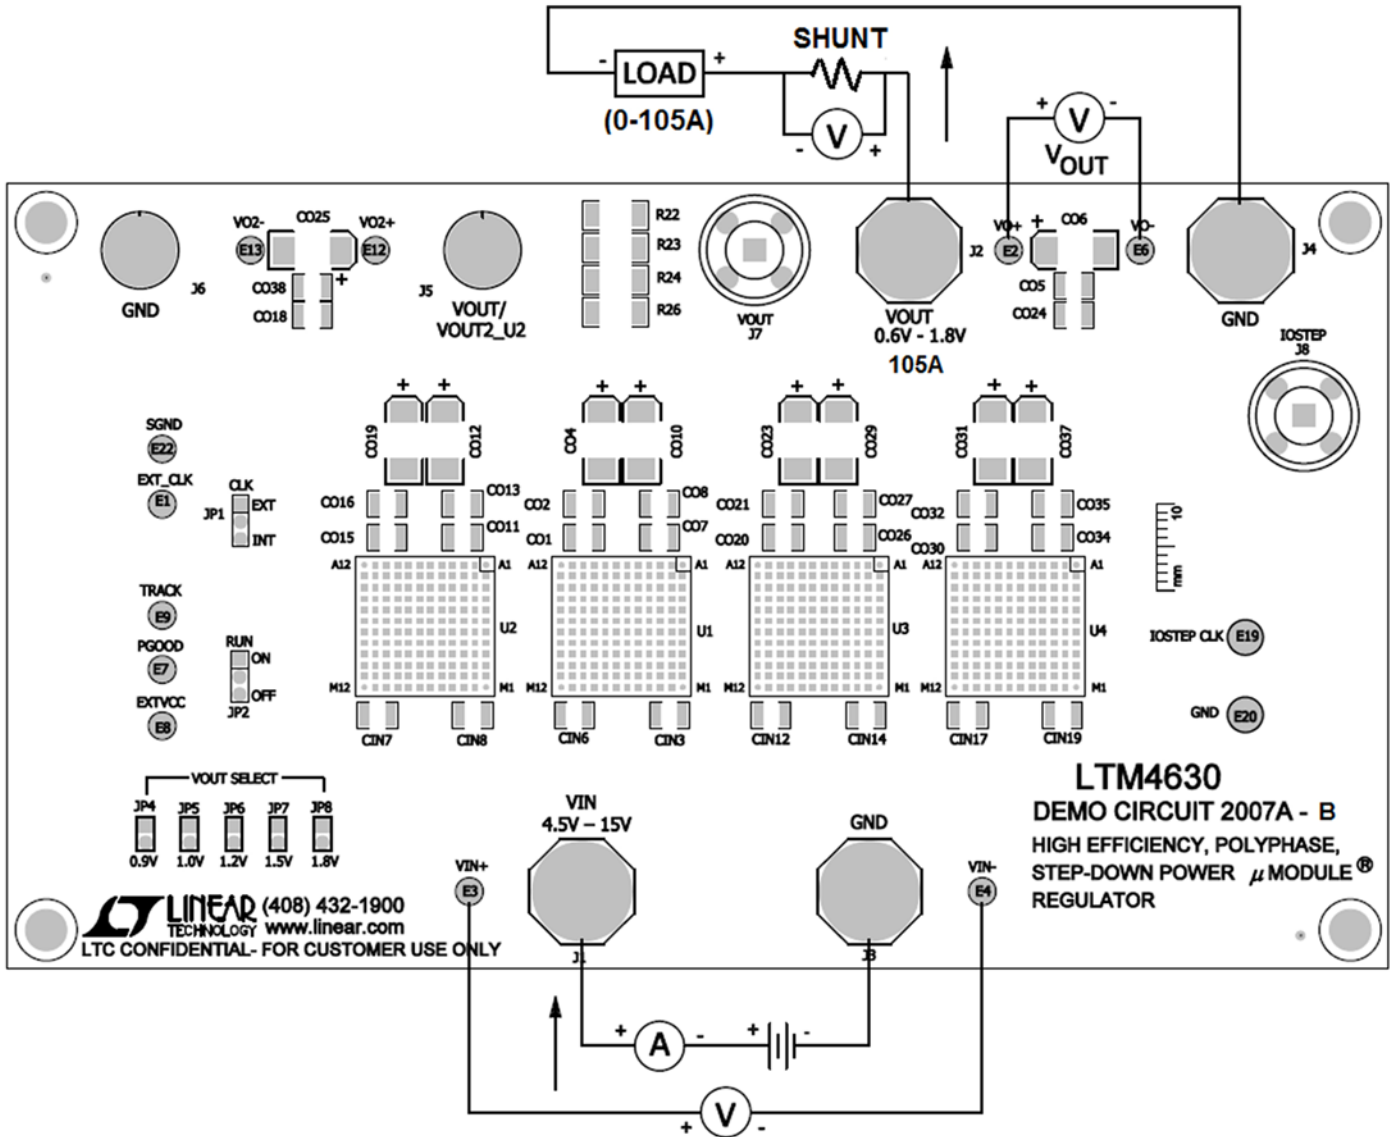

Figure 2. Test Setup of DC2007A-B
Demonstration circuit DC2007A-B is easy to set up to evaluate the performance of PolyPhase operation of the LTM4630EV. Due to the high input/output current, user should select the proper input supply/load/cable which can sustain the full load operation. It's recommended to pull load current from J2 and J4. The load current pulled from J5 and J6 shouldn't exceed 18A. Please refer to Figure 2 for proper measurement setup and follow the procedure below:
- With power off, connect the input power supply, load and meters as shown in Figure 2. Preset the load to 0A and V_{IN} supply to 12V.